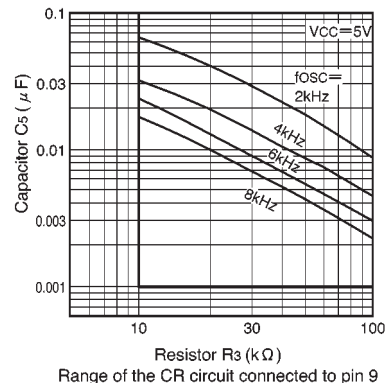

Fig. 9
(1) Use the potentiometers VR1 and VR2 connected to pins 1 and 3 to set the 0dB levels and adjust the channel 1 and channel 2 balance.
(2) The recommended oscillator frequency is 4kHz (pin 9). The external component values for C_5 and R_3 are 0.01μF and 41kΩ (or 39kΩ). If you wish to use other values, they should be in the ranges 0.001μF to 0.1μF and 10kΩ to 100kΩ. (see Fig. 9).
(3) The dynamic ranges for the BA6820F and BA6822S/F comparators are large, and the comparators will operate even with low-level signals.